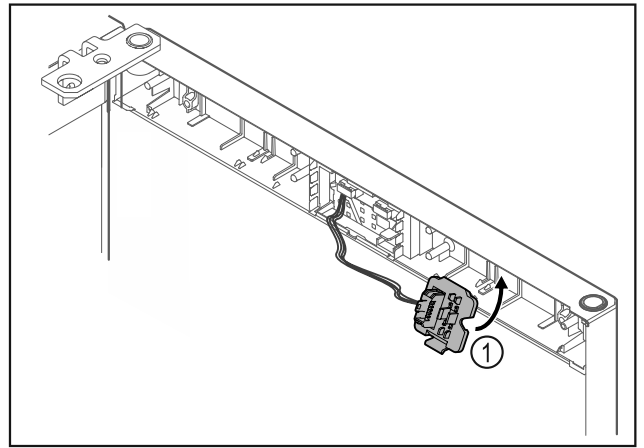

Fig. 24
- Snap in the plug holder Fig. 24 (1) on the opposite side.